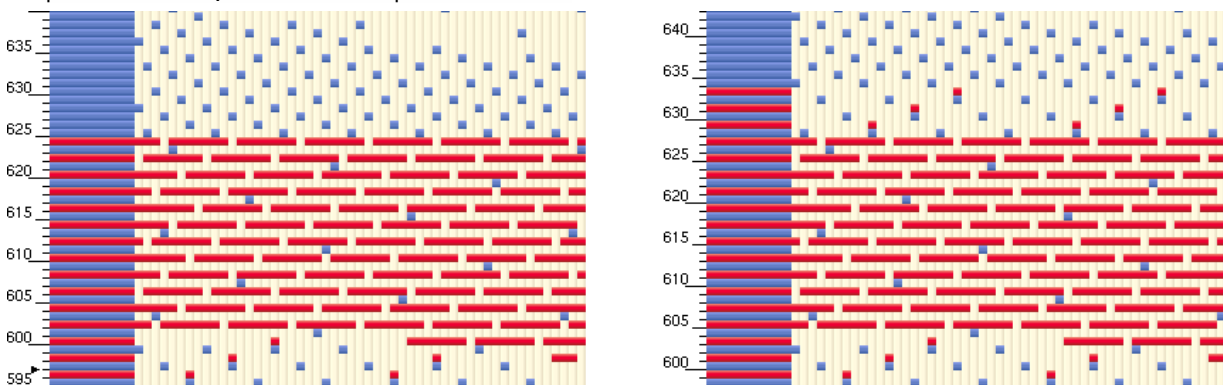

Figure 249: Protect function in extra wefts
11. **Protect:** sometimes it is necessary to continue with a few extra threads, even if they are not needed for motif; they just prevent the last thread in design to slip. Figure 249 shows same design, made without protect threads, and with three protect threads.